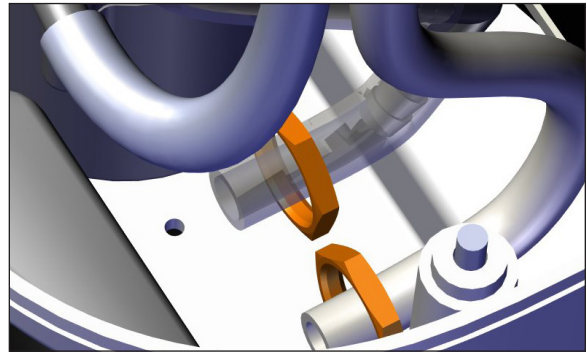

Figure 80 - Step 6 Slide retainer nuts up
6. Use the 3/4" wrench to unscrew the retainer nuts on the back of the quick disconnect couplings (Figure 80). Slide the nuts up onto the tubing.